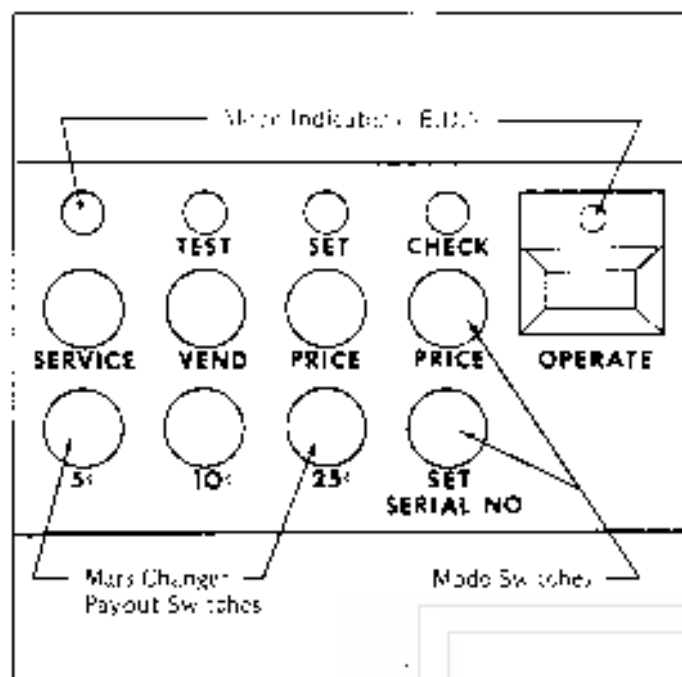
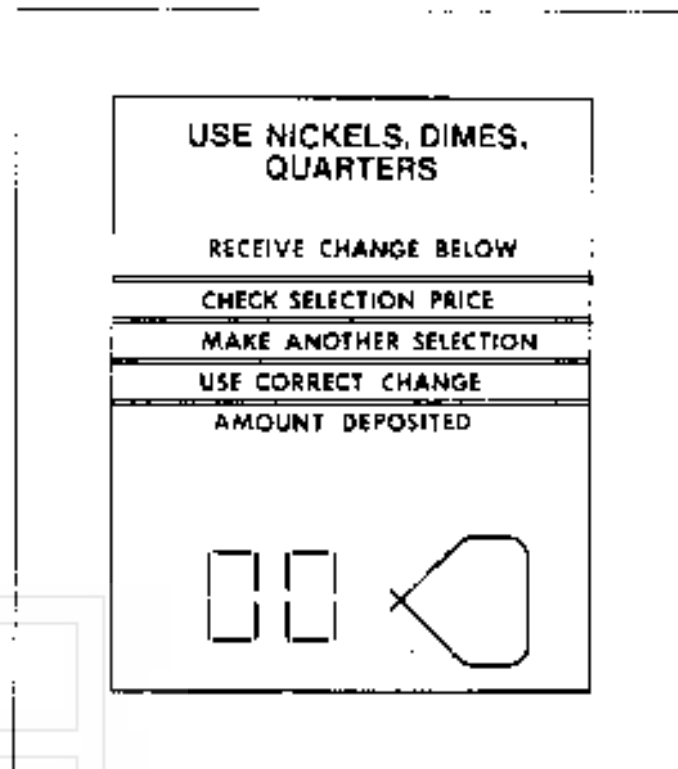
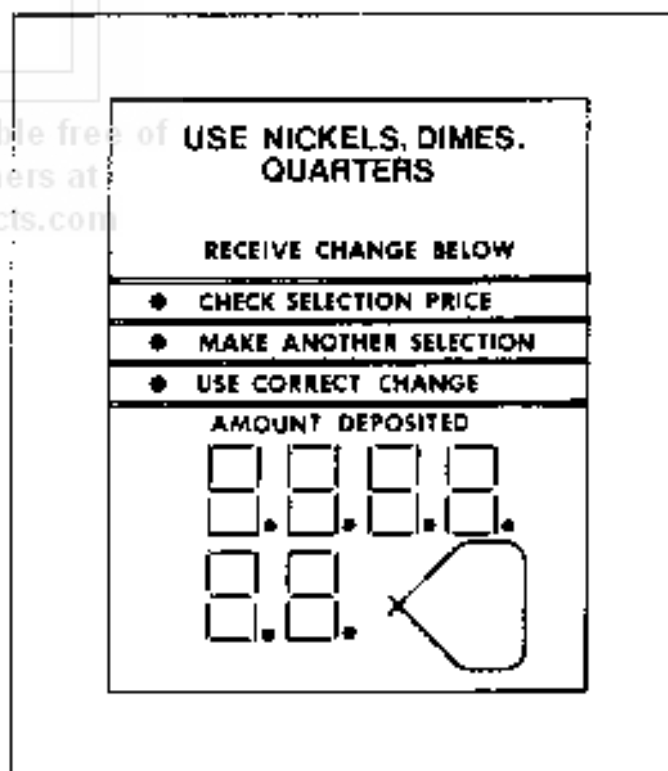

Figure 10. MODE SWITCHES.
Figure 16.
Figure 20.
The mode switch box is located on the door above the changer. It allows for control of the following machine functions: Operate mode, set price mode, check price mode, test vend mode, service mode and set serial number mode (see Figure 10).
A. Press the "set price" button on the mode switch box (Figure 10). The L.F.D. above the set price button will light and the product code display located on the selection panel will be explained later. Any selection programmed at this reading will be removed from the operating program. This would be used when shelves are moved or the number of selections changed to remove those selections not present in the machine from the program.
- A. Press the "check price" button on the mode switch box (Figure 10). The L.E.D. above the check price button will light and the selection panel display will be blank.
- A. Press the "set price" button on the mode switch box (Figure 10). The L.E.D. above the set price button will light and the display located on the selection panel will show "00" (Figure 16). This two digit display is the product code and can be incremented up by pressing button 13 and down by pressing button 14. Increments are one. Any selection programmed at this reading will be removed from the operating program. This would be used when shelves are moved or the number of selections changed to remove those selections not present in the machine from the program.
- A. Press the "check price" button on the mode switch box (Figure 10). The L.E.D. above the check price button will light.
- A. Press the "test vend" button on the mode switch box (Figure 10). The L.E.D. above the test vend button will light and the display located on the selection panel will be blank. The machine is now ready to operate exactly under the same conditions as in the operate mode, so you will have to use money for the testing. After all servicing and testing has been made return the machine to the operate mode. The machine is now ready for normal customer usage.
- A. Press the "service" button located on the mode switch box (Figure 10). The L.E.D. above the service mode button will light and the selection panel L.E.D.'s will all light (Figure 20). This tells the service person if all L.E.D.'s are in operating condition and that the Control Board is operating.
- C. If a non-functioning motor exists, record the selection on paper and repeat step B. Continue this procedure until all non-functioning selections have been displayed, recorded and the selection panel display reads all 8's (Figure 20).